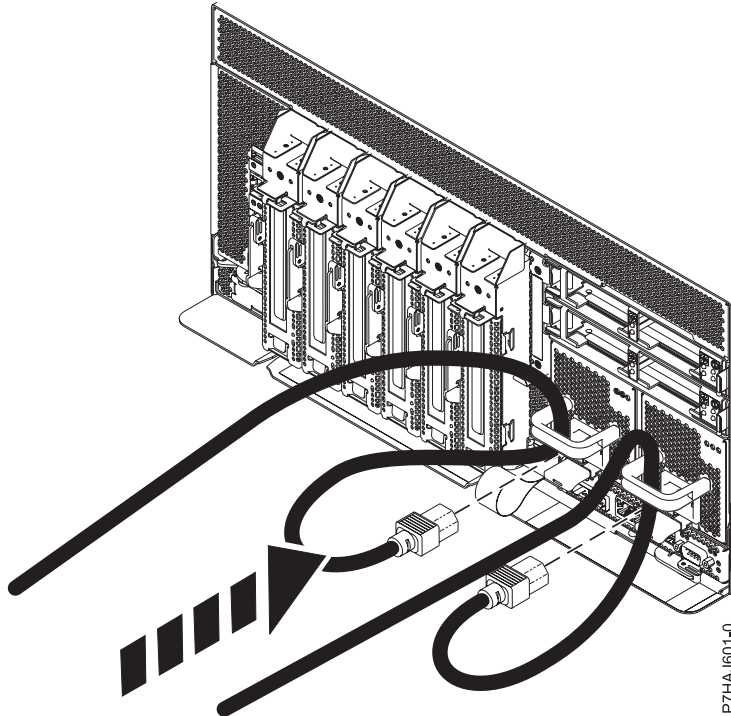

Figure 24. Connecting the power cords
2. Reconnect the power cord to the system unit as shown in Figure 24 on page 39. Ensure that the cords are threaded through the handles.